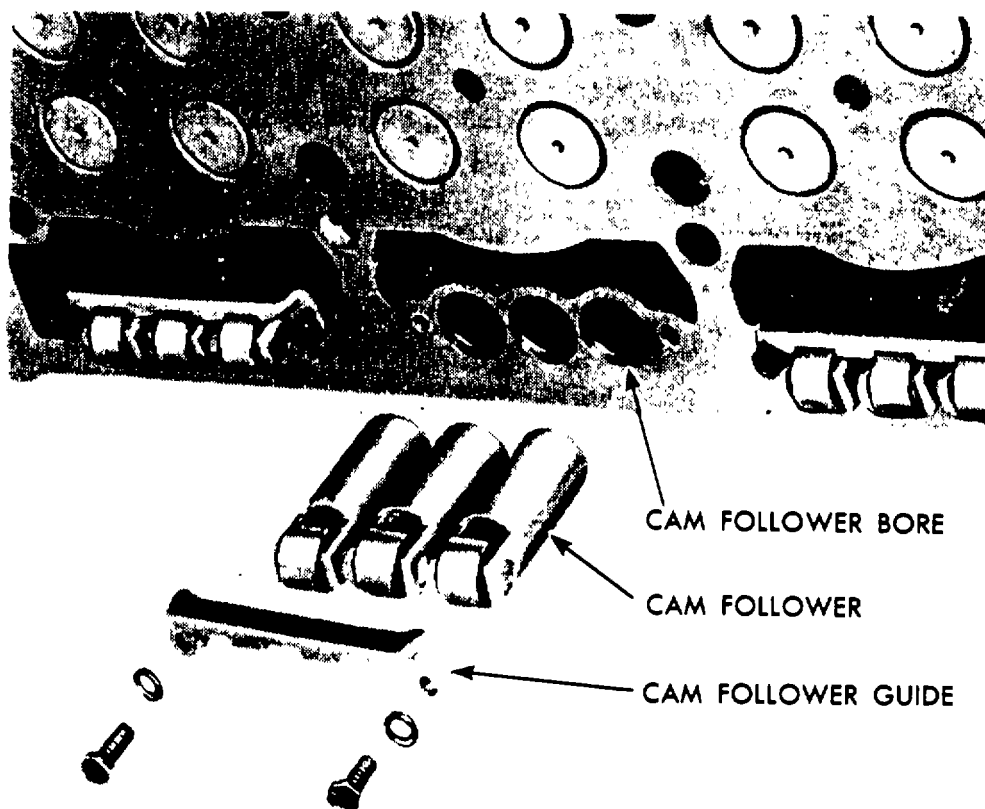

Figure 5-26. Cam Followers and Cylinder Head.
- (1) Three rocker arms are provided for each of four cylinders; two outer arms operate exhaust valves and center arm operate fuel injector.
- (2) Each set of three rocker arm assemblies pivots on a separate shaft supported by two brackets. A single bolt secures each bracket to top of cylinder.
- (3) Rocker arms are operated by camshaft through cam followers and short push rods extending through cylinder head (Figure 5-26).